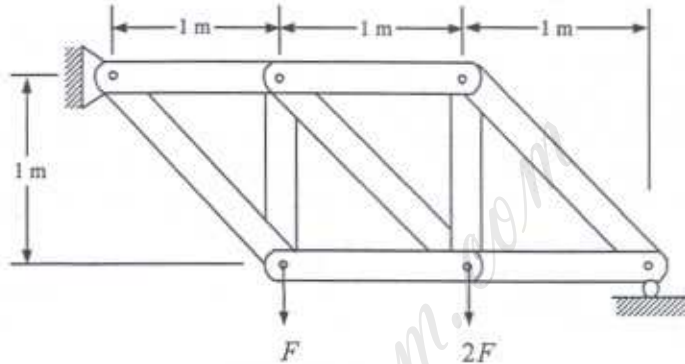

Figure 1
Q.1. Determine the safest value of F on the truss shown in Figure 1 assuming that each member is capable of supporting a tensile load of 28 kN and a compressive load of 12 kN safely.